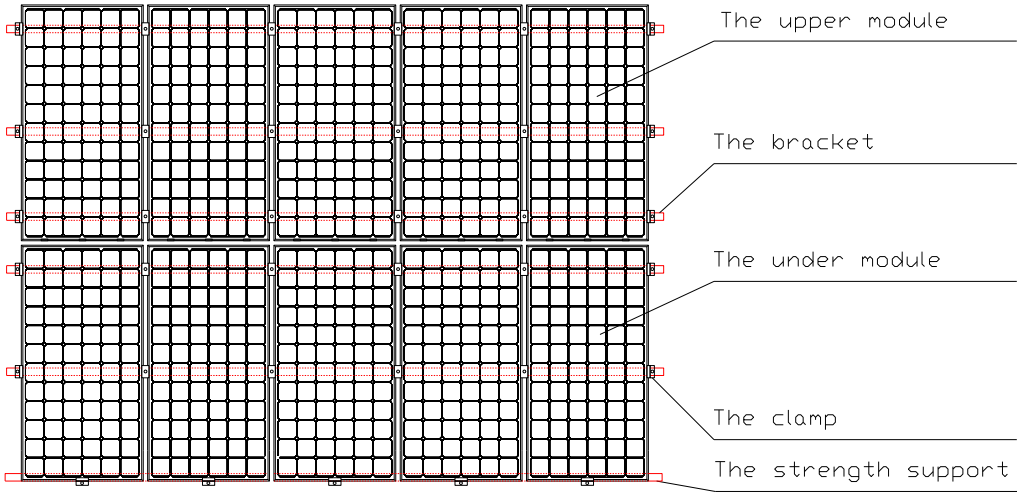

FIG 4 Schematic diagram of reinforcement mounting of module
- ◆ For the roof system installed in the area that ever experienced relatively heavy snowfall or snow cover, the customer shall reinforce the mounting system at the lower frame of the module, in order to prevent the lower frame from being pressed and damaged by the falling snow, and avoid the module damage due to melt snow freezing in daytime. CSUN suggests to selecting the support reinforcing mechanism shown in Figure 4.